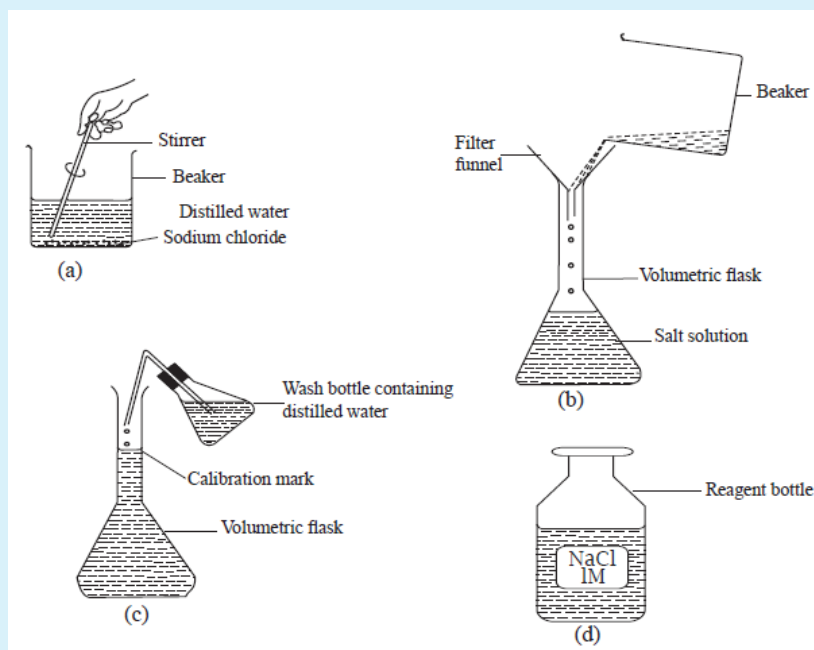

Figure 6.2.1: Preparation of 1M sodium chloride solution
- Using a filter funnel transfer the salt solution into a 1 dm³ volumetric flask Figure 6.2.1